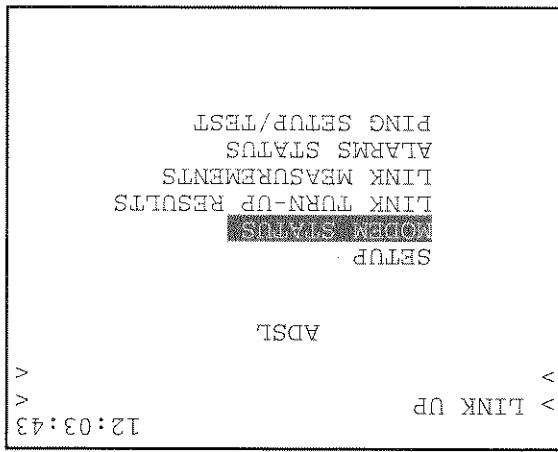

Figure 5 ADSL Menu
2) This brings you to the ADSL menu screen. Refer to Figure 5.